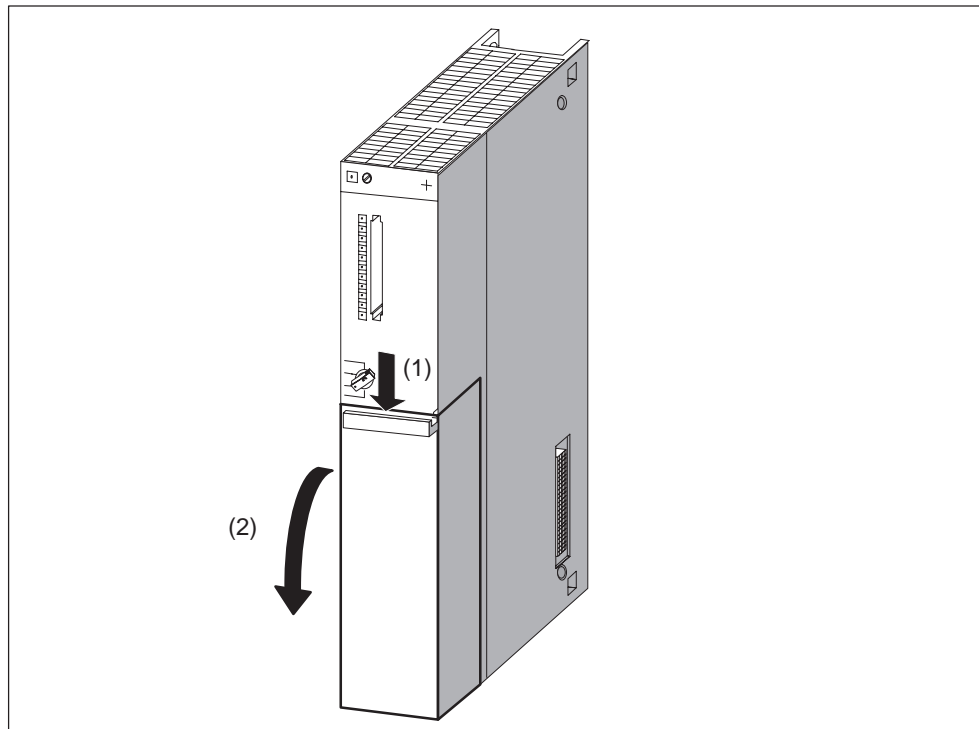

Figure 3-2 Removing the Cover
4. If necessary, remove the covers from the modules. Figure 3-2 shows how to remove the cover.
- Press the locking lever downwards (1).
- Swing the cover off forwards (2).